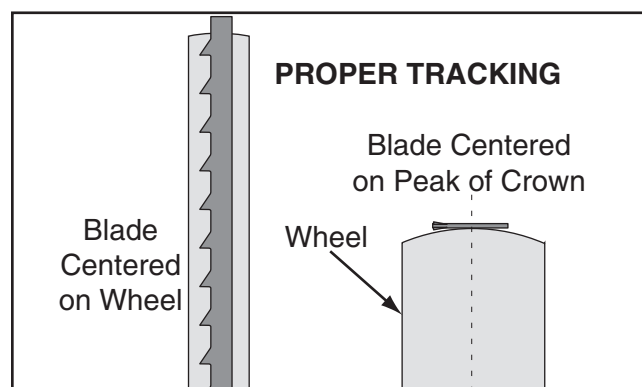

Figure 22. Blade centered on the crown of the wheel.
Bandsaw wheels are either flat or crowned and both shapes track differently. The G0555LX has crowned wheels. As the wheels spin the blade naturally tracks to the highest point of the crown at the center of the wheel (see **Figure 22**).
6. Rotate the upper wheel by hand several times and watch how the blade rides on the wheel crown (see **Figure 22** on **Page 21** for an illustration of this concept).